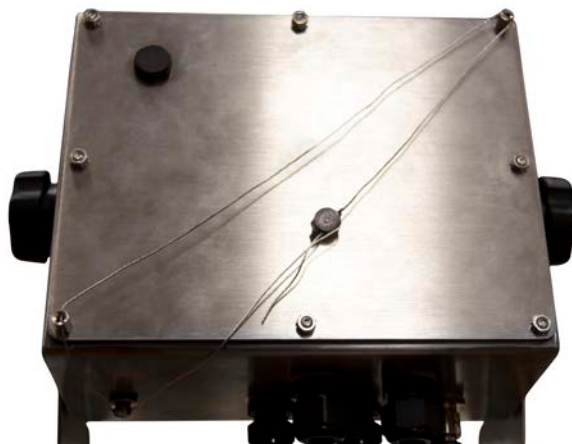

Figure 2-14. Sealing the Indicator
1. Place the sealing wire through the fillister head screws on the backplate, then through the fillister head screw at the bottom of the indicator, as shown in Figure 2-14.